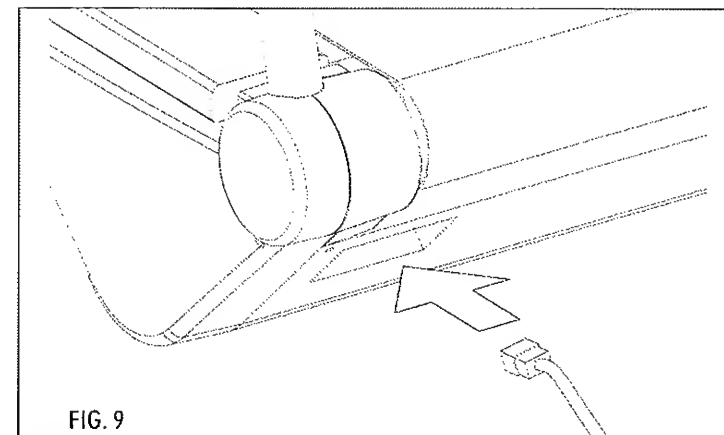

FIG. 9
STEP 9 (FIG. 9)
Plug the socket end of the power cord into the treadmill at the lower right front corner. Read all warnings on the treadmill before plugging it into the wall. (See FIG. 9)